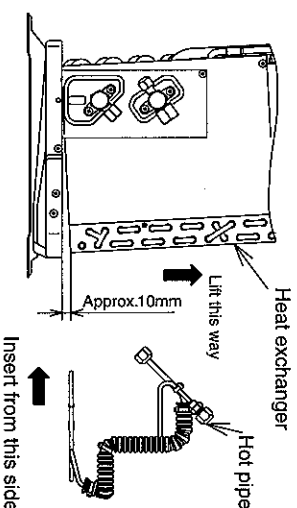
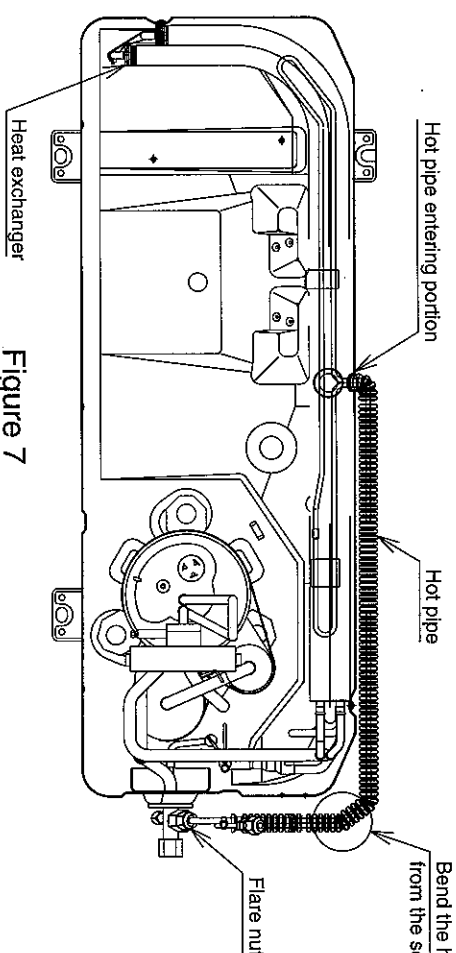

Figure 6
Figure 7
7. Lift up the heat exchanger as shown in figure 6, and create a gap of approximately 10mm between the base and the lower surface of the heat exchanger. Then insert the hot pipe into the top of the base from the gap, and secure as shown in figure 7.
8. Return the heat exchanger to the original position, and fasten the screws you had remove earlier to the base. Then, bend the hot pipe so that the flare nut is approximately 10cm from the service valve, as shown in figure 7.